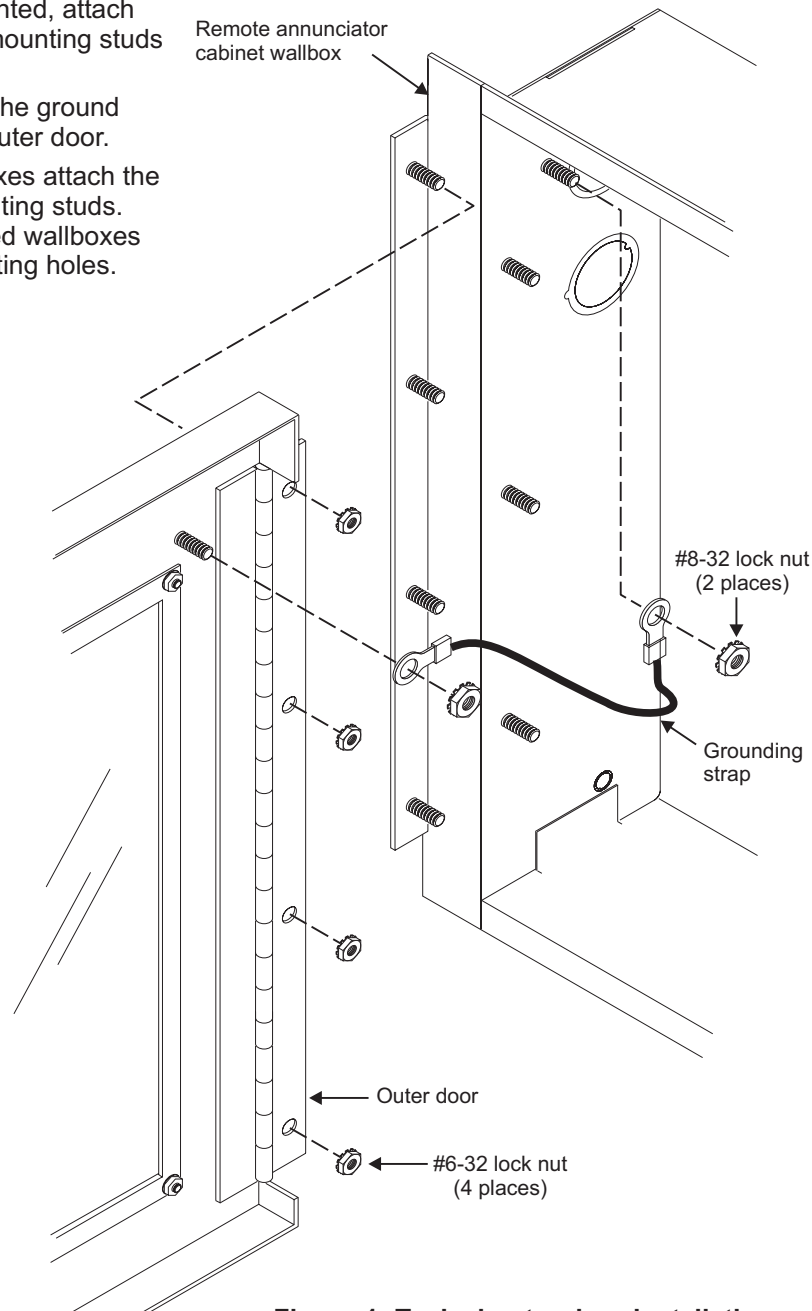

Figure-1: Typical outer door installation
1. With the wallbox securely mounted, attach the outer door to the outer door mounting studs as shown in Figure-1.